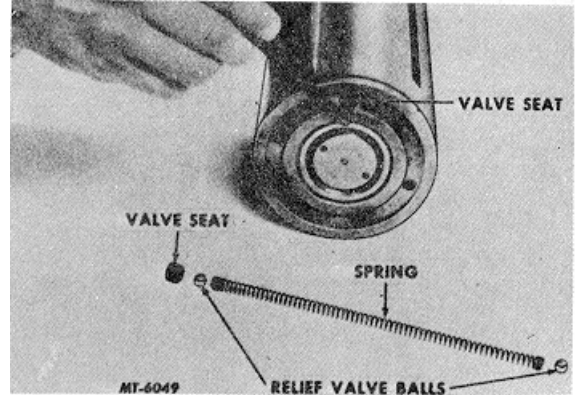

Fig. 26
25. Remove valve seats using a 3/16" Allen wrench, Fig. 26. NOTE: Do not lose relief valve balls, which are spring loaded. The relief valve spring can then be removed.